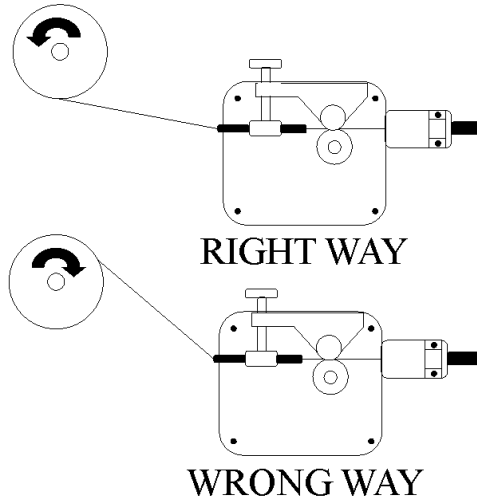

Figure 4
- iv. Place the spool on the spool hub so the wire will pull off the bottom of the spool. The welding wire should always come off the bottom of the spool into the drive mechanism (Figure 4).